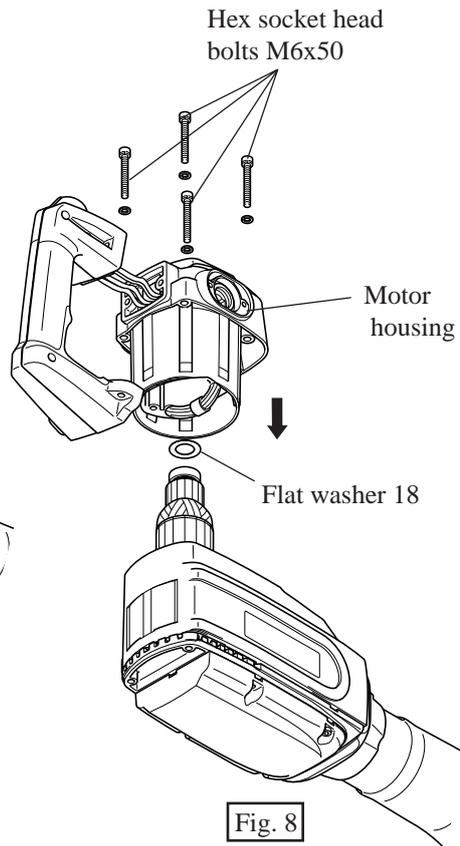

Fig. 8
- (2) Make sure that flat washer 18 has been previously mounted in the bearing assembling hole of motor housing (rear cover side). Mount motor housing to crank housing by pressing. Fasten it with hex socket head bolts M6x50. See Fig. 8.